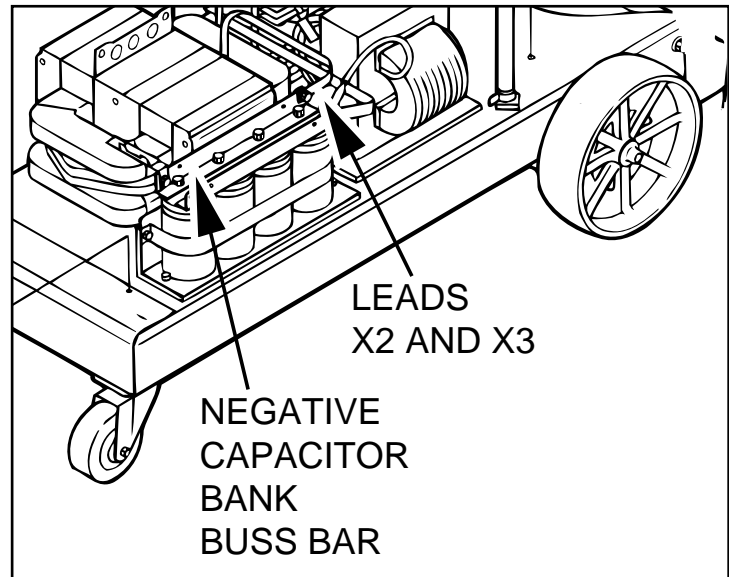

FIGURE F.6 - Location of Leads X2 and X3.
4. Disconnect leads X2 and X3 from the negative capacitor bank using a 1/2" open end wrench. See Figure F. 6.
5. Separate leads X2 and X3 from the negative capacitor bank buss bar. Be sure there is no electrical contact. See Figure F.6.